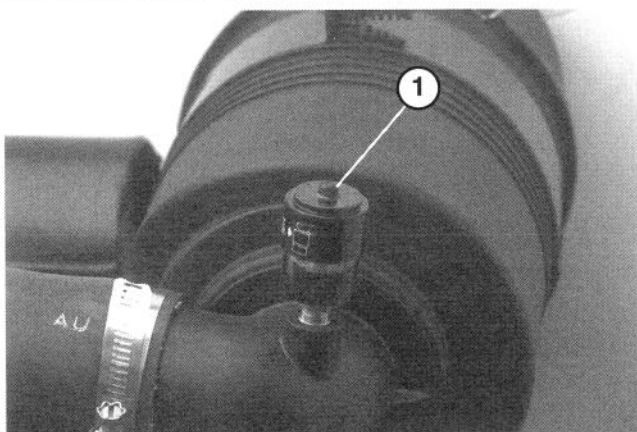

Figure 41
2. Service the air cleaner filters when ever air cleaner indicator (Fig. 41) shows red or every 400 hours (more frequently in extreme dusty or dirty conditions). Do not over service air filter.
8. Reset indicator (Fig. 41) if showing red.